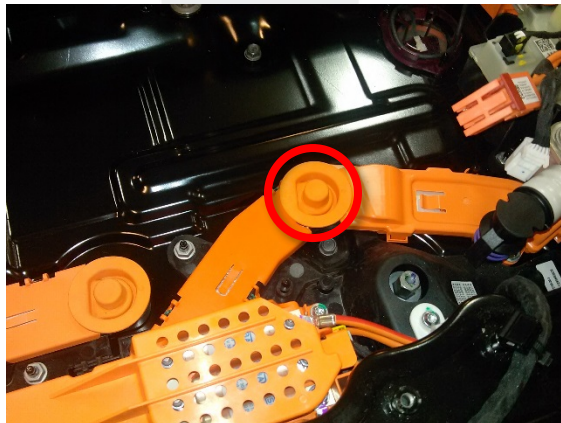

Figure 1
2. Remove the insulator cap from the HV positive busbar joint nut (Figure 1).
6. Install the insulator cap onto the HV positive busbar joint nut (Figure 1).